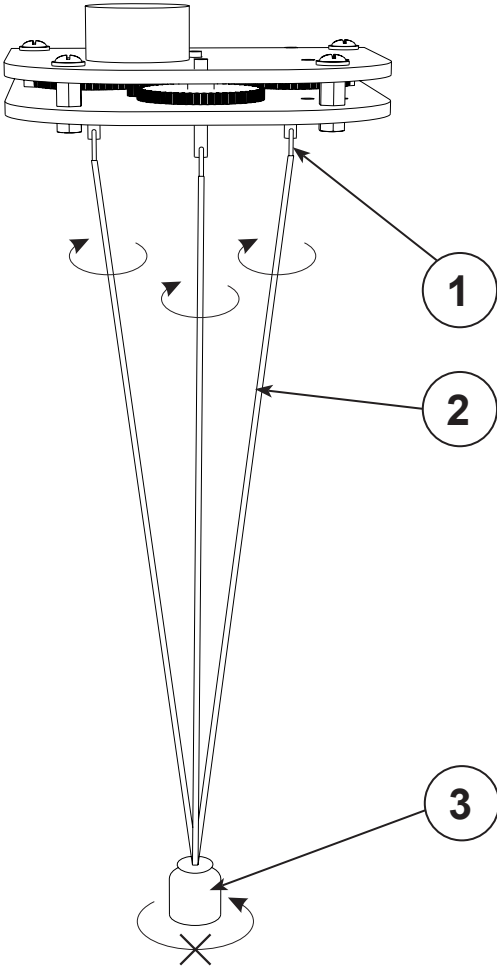
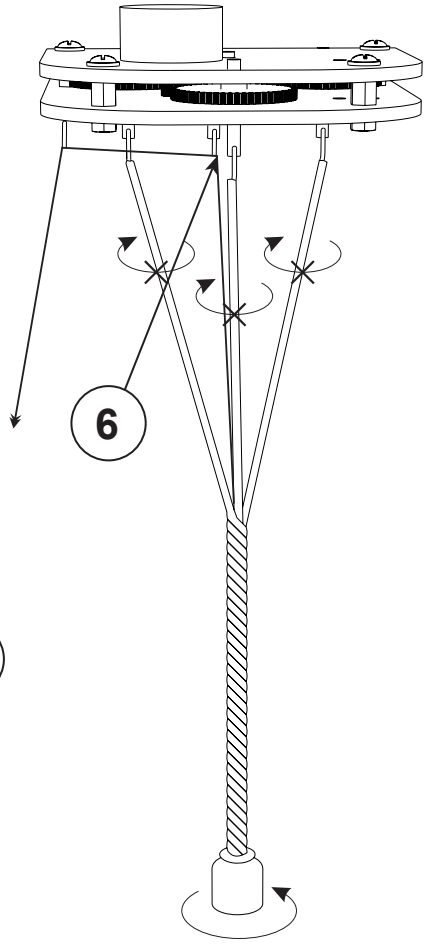

Figure 5.
Figure 9.
6. Turn on the motor to make source threads (2) wind about axis. Hold the load (3) to prevent its rotation about axis and to prevent source threads (2) from intertwisting. If source threads (2) engage each other, bring them apart manually (*fig. 5*).
7. Turn on the motor to make source threads (2) wind about axis. Hold the load (3) to prevent its rotation about axis and to prevent source threads (2) from intertwisting. If source threads (2) engage each other, bring them apart manually (**fig. 5**).
8. After a while, when the load (3) has lifted to 10–15 % of source threads' (2) length, stop the motor.
9. Preventing the load from rotating, thread the core (4) through the hook (6) mounted on the central axis and tense it slightly (**fig. 9**).
10. Release the load (3) and let it rotate freely about axis, thus winding source threads (2) around each other and around the core (**fig. 9**).
4-stranded rope w/o core comes uneven, with hogs.	See fig. 9 . One of strands attempts to take central position. Use the core.